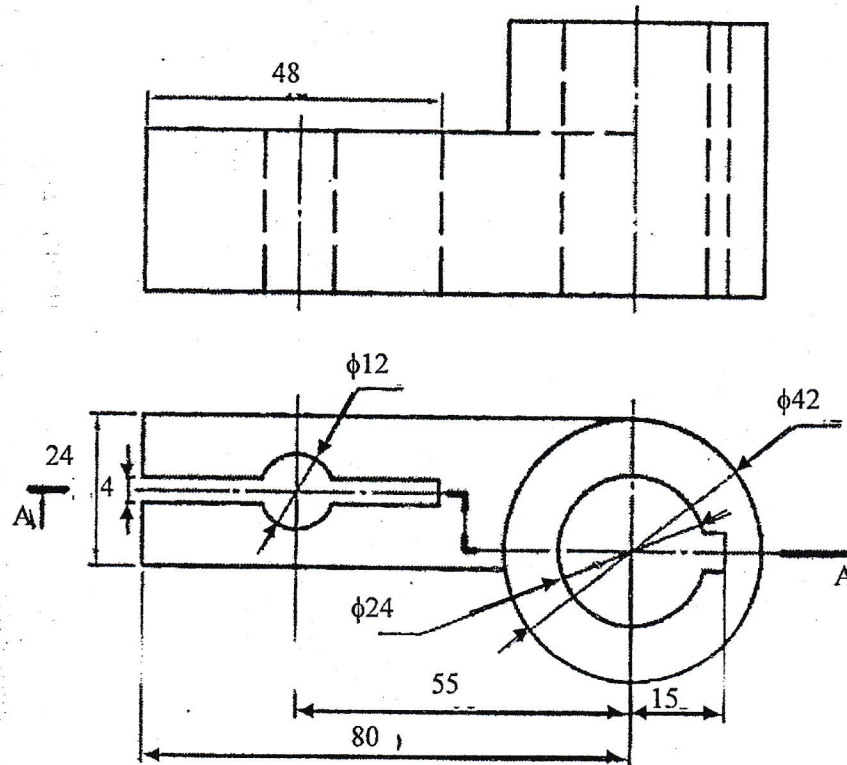

Figure P.4
4. Orthographic projection of the object is shown in figure P.4. Draw the sectional view at section A-A.